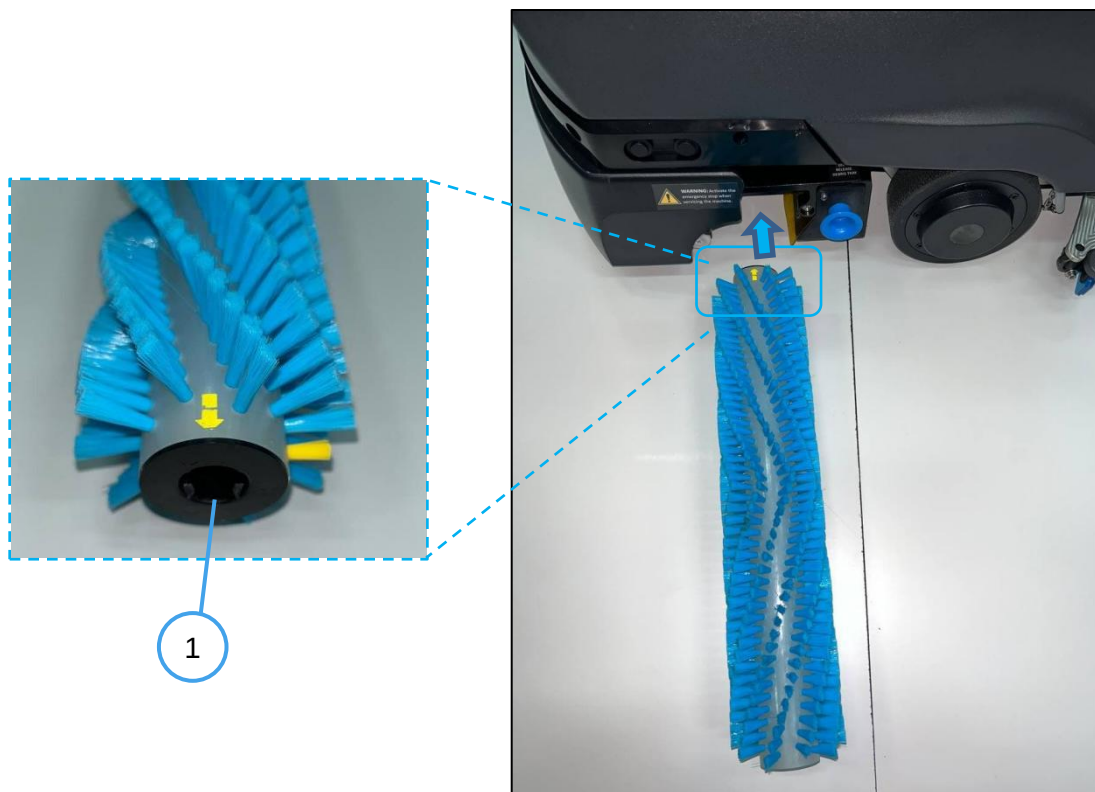

Fig. 2
2. Locate the end of the brush with the female alignment and lock feature (Fig. 2 – 1) and place it into the brush slot.